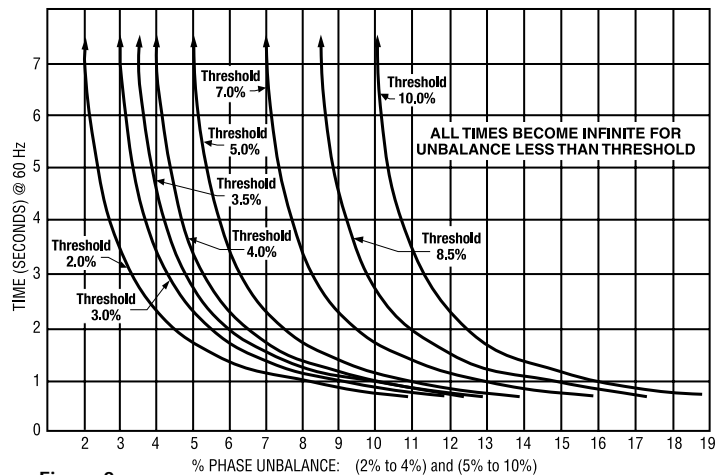

Figure 2
**Phase Imbalance Condition:** The unit continuously averages the three phase voltages and recognizes individual deviations from the average. By strapping, the user can select one of four imbalance thresholds: Either 2.0%, 3.0%, 3.5%, 4.0%, or 5.0%, 7.0%, 8.5%, 10.0% depending on model. When any phase voltage deviates more than the selected percentage from the three phase average, a time delay as shown in Fig. 2 is initiated. The unit then continues to monitor the severity of the fault and modifies the time delay accordingly. If the phase imbalance condition persists, the time delay will expire and the output relay will release.